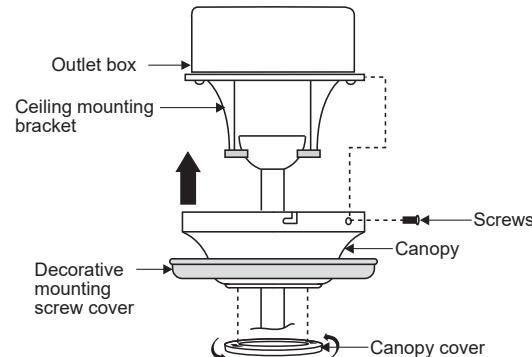

Fig. 15
**Step 2.** Slide the canopy up to the ceiling and attach the canopy to the ceiling mounting bracket using 4 screws at the top edge of the mounting bracket. Insert each screw through the canopy mounting hole and into the mounting bracket. Slide the canopy cover up to the canopy and rotate clockwise until tight. Tighten all screws securely. (Fig. 15)